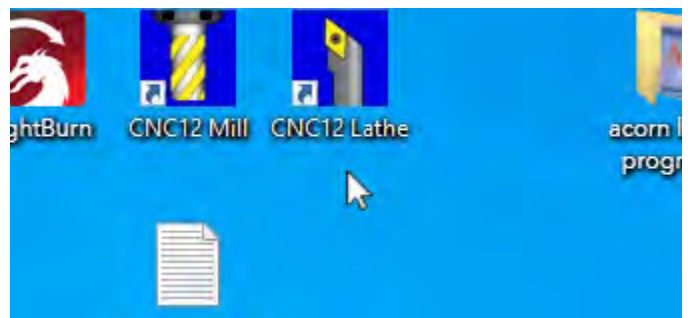

FIGURE 37
3. Click on the CNC12 Mill or the CNC12 Lathe icon to open the controller page software (see Figure 37).